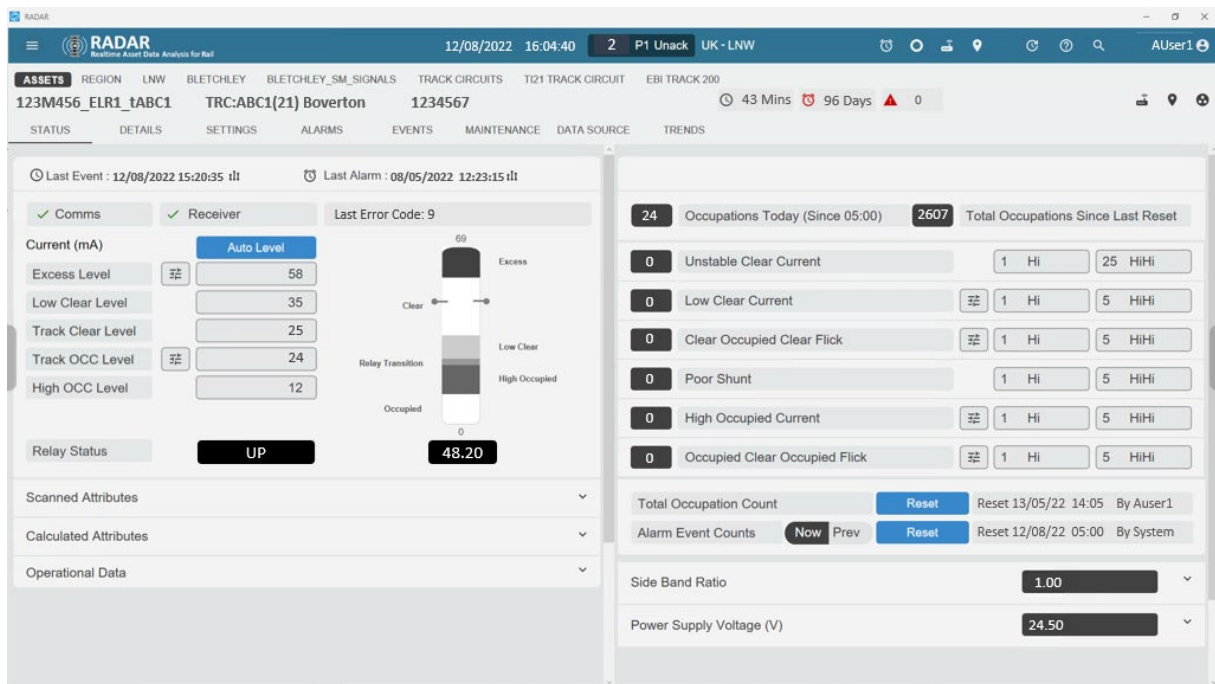

Figure 5 - Screen shot showing Asset free from Alarms
- 8.8 Check that there are no Alarms present on the “ALARMS” tab (See Figure 5). If there are no Alarms present, proceed to Step 8.11.